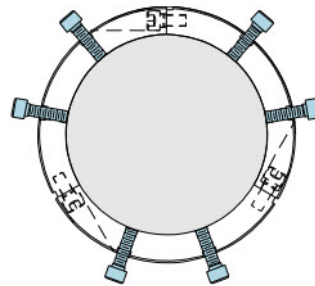

Figure 10-3: Push-Off Bolts
3. Install the push-off bolts into the clean threads (Figure 10-3), and turn the first push-off bolt with a wrench, 1/8 turn.